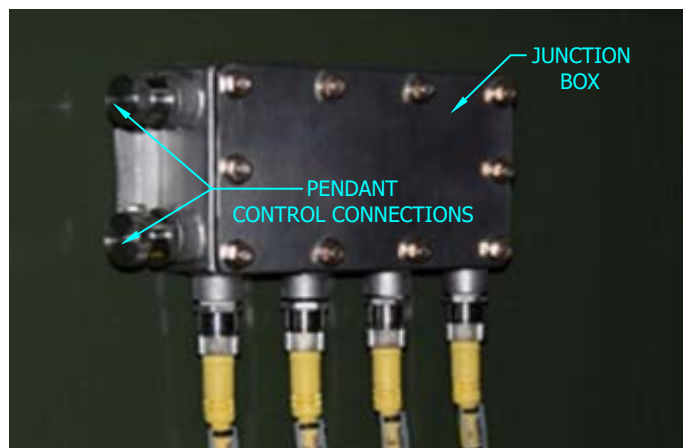

FIGURE 10
L. PENDANT CONTROLLER MUST BE CONNECTED TO THE JUNCTION BOX PICTURED BELOW TO OPERATE MOTOR OPERATORS. JUNCTION BOX CONNECTIONS ARE SEVEN-PIN AND 12-PIN, SO THEY CANNOT BE INSTALLED INCORRECTLY. SEE FIGURE 10.